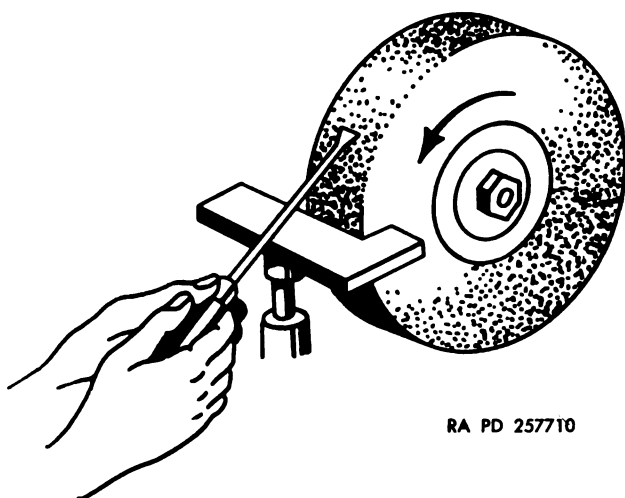

Figure 240. Grinding a flat pointed awl.
b. To grind a flat pointed or special shaped awl blade, hold the blade against the grinder abrasive wheel (fig. 240) in a position to preserve or restore the original shape.